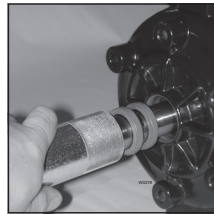

Figure 2
1. Use tapered end of Seal Inserter to push seals off of Seal Protector and into pump housing (Figure 2).